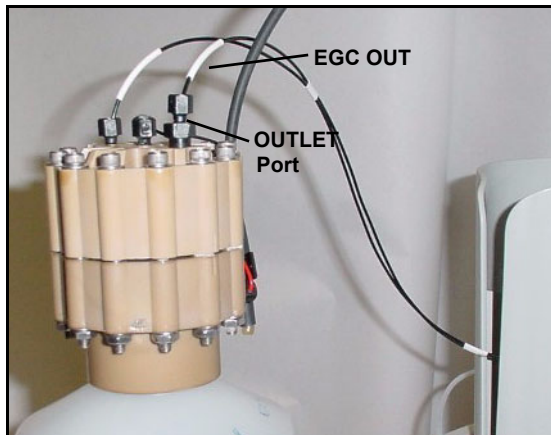

Figure 43. EGC Outlet Connection
16. Connect the **EGC OUT** line from the holder to the **OUTLET** port (see Figure 43).